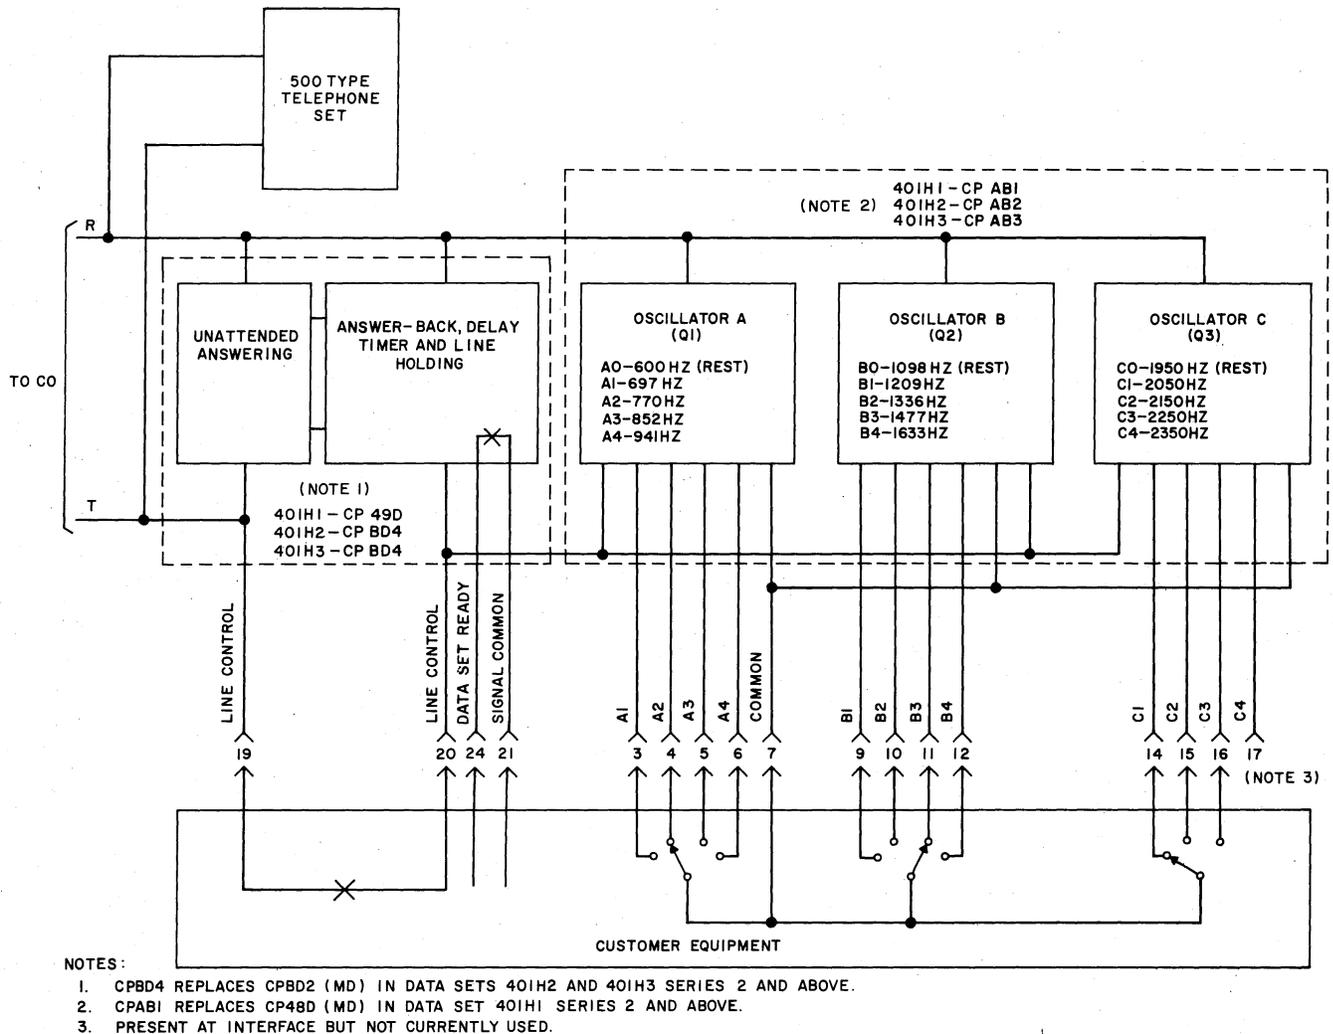

Fig. 5—Data Set 401H1, 401H2, or 401H3—Block Diagram
3.01 This part describes the major functional components that make up DS 401H-type. Refer to Fig. 5 for a simplified block diagram of data set 401H1, H2, or H3 and to Fig. 6 for data set 401H4, H5, or H6.